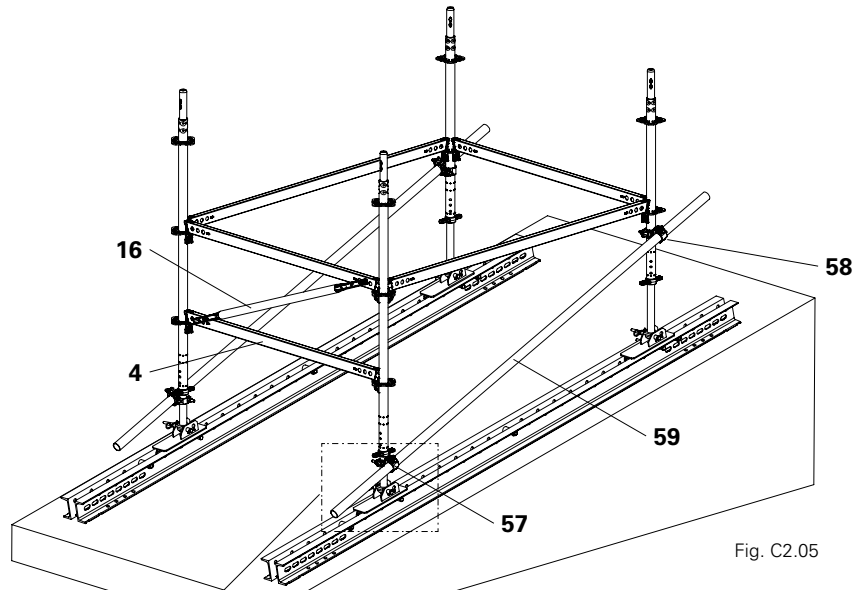

Fig. C2.05
1. Fit a Sw. Coupl. DK 38/48 (57) on the spindle head, as close as possible to the Connector MP SRU.
2. Fit a Sw. Coupl. DK 48/48 (58) on the standard, directly above the first rosett.
3. Fit the scaffold tube (59) into the couplings and tighten the couplings with 50 Nm.
4. Brace the side with longer standards using an additional horizontal ledger (4) and ledger brace (16). (Fig. C2.05)